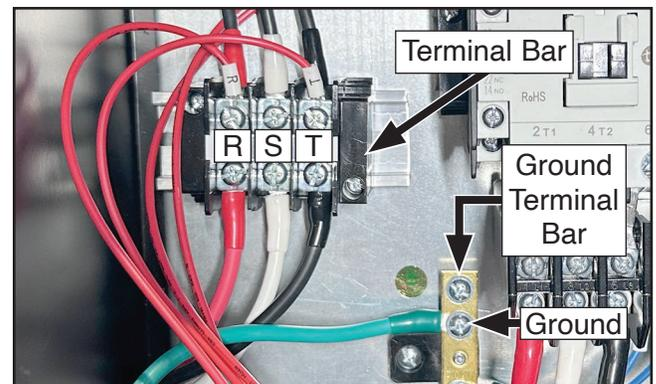

Figure 63. Location of R, S, T, and ground terminals.
During next step, make sure incoming ground wire is connected to ground terminal to ensure machine will be properly grounded (see "Ground Terminal" in **Figure 63**). An ungrounded or improperly grounded machine can cause electrocution if live electrical wires make contact with frame or other parts touched by operator.
5. Connect incoming power wires to R, S, and T terminals on terminal bar, then connect ground wire to any available terminal on ground terminal bar (see **Figure 63**).